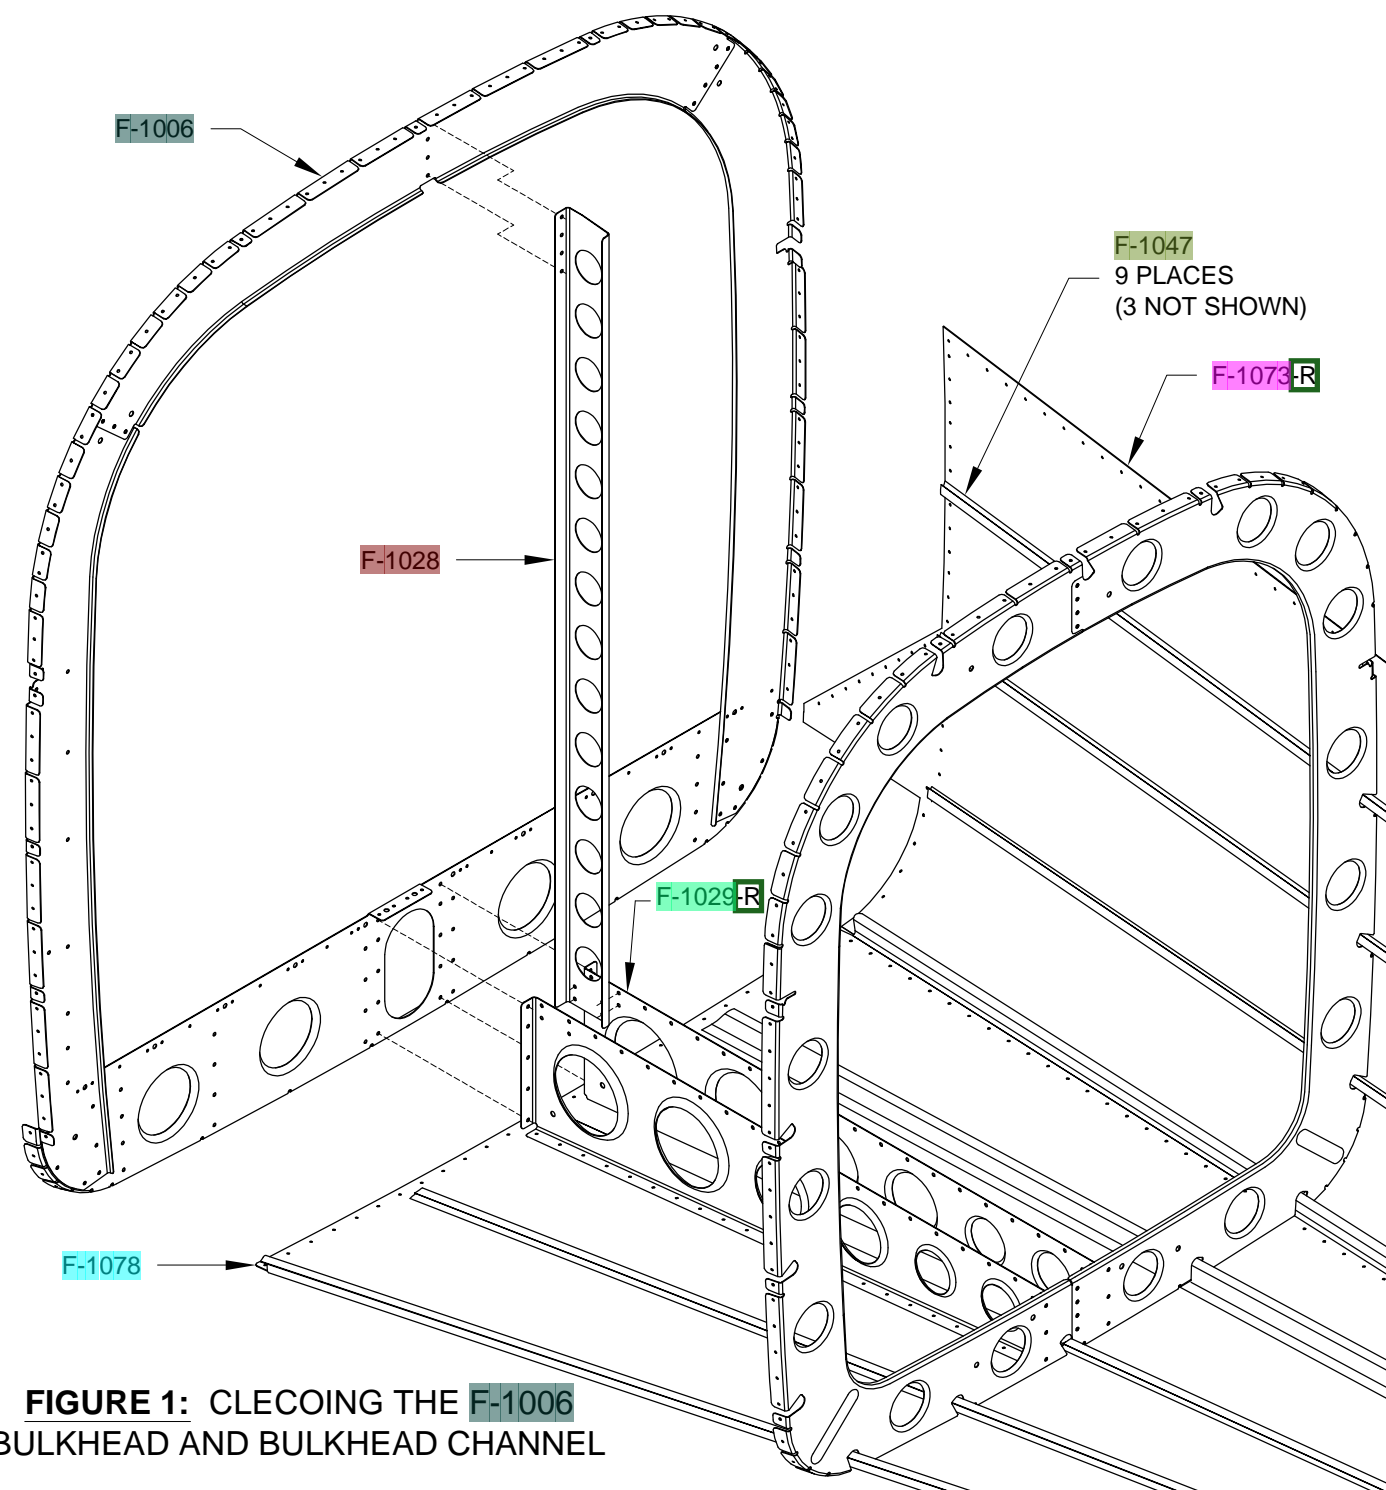

FIGURE 1: CLECOING THE F-1006 BULKHEAD AND BULKHEAD CHANNEL
Step 1: Cleco the F-1006 Bulkhead to the F-1073-L, F-1073-R, and F-1078 Skins and to the F-1029-L & -R Bellcrank Ribs as shown in Figure 1. The F-1032 Longerons, the F-1073-L Side Skin, and the F-1047 Stiffeners attached to the side skin are not shown for clarity.